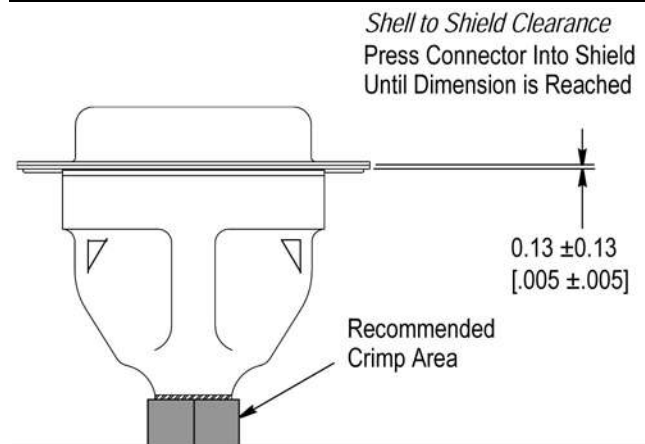

Figure 7
5. Press the shield onto the connector as shown in Figure 7.
7. Crimp shield to cable as shown in Figure 7.